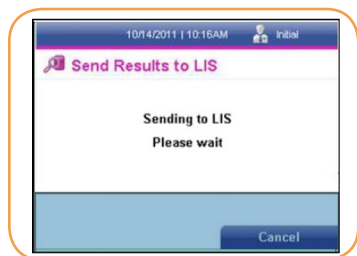

FIGURE 95
- Using the [↓] key, select the desired option, then press the right soft key. A screen will appear stating that the reader is sending the results to LIS (Figure 95).